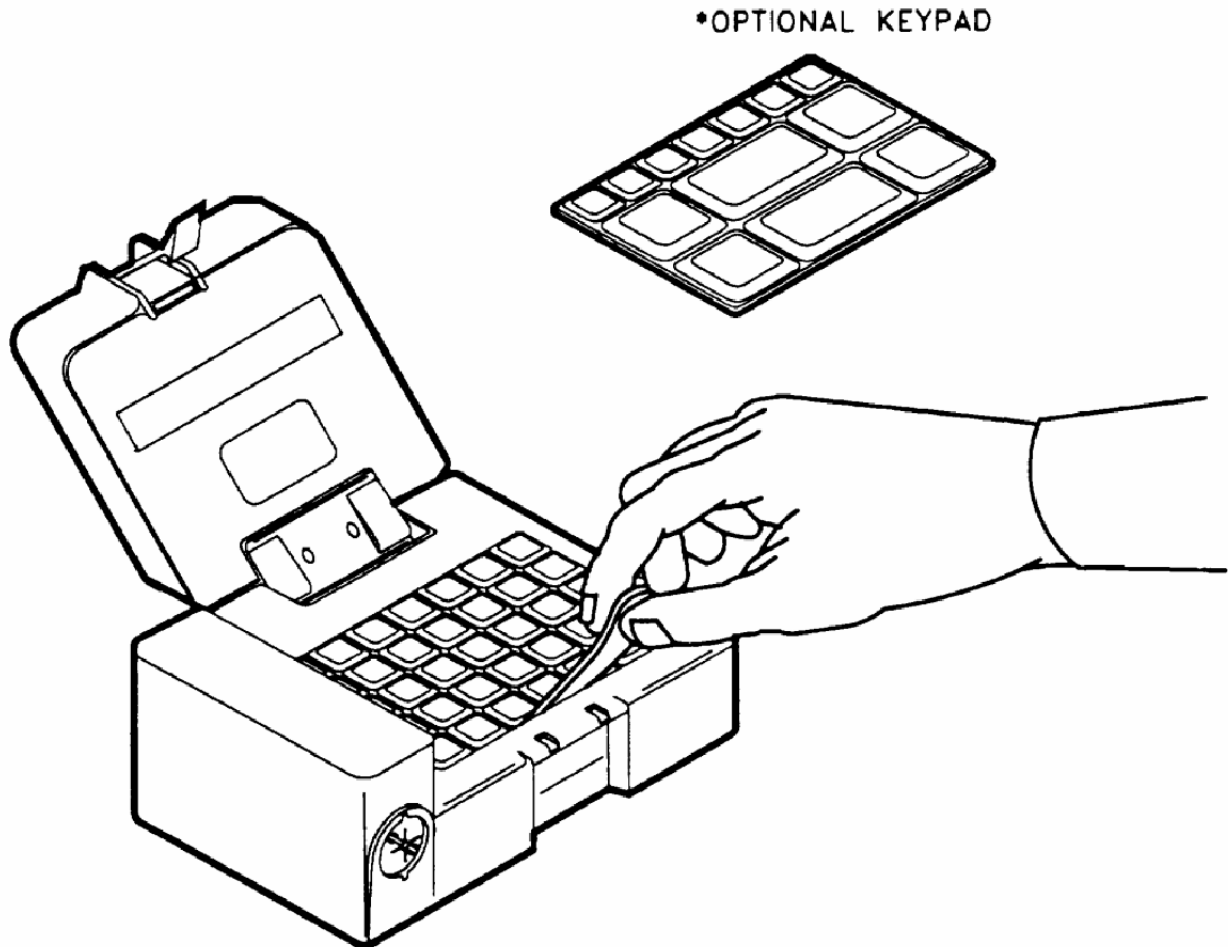

Figure 4-3. Keypad Removal Replacement
- f. Keypad. The ANCD uses two keypads, full function and limited function. They are both replaced in the same fashion. The following is a description of the replacement procedure; refer to Figure 4-3.